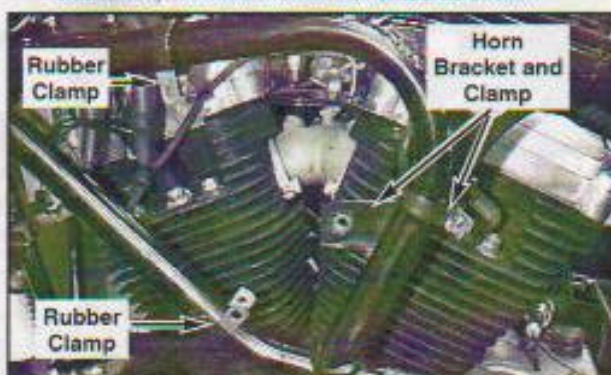

Figure 2. Install Clamps to Frame
4. See Figure 2. Install two rubber fan bracket clamps (P/N C0529.KA) to frame member oriented as shown.